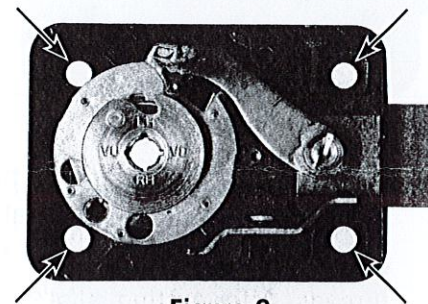

Figure 2
2. Mount the lock in place with four attaching screws (provided). Use either ¼-20 or M6 screws, depending on the hole dimensions in the lock mounting surface provided by safe manufacturer. Arrows in Figure 2 show the mounting screw locations. Tighten to 30 to 40 inch-pounds (3,39 to 4,52 Nm).